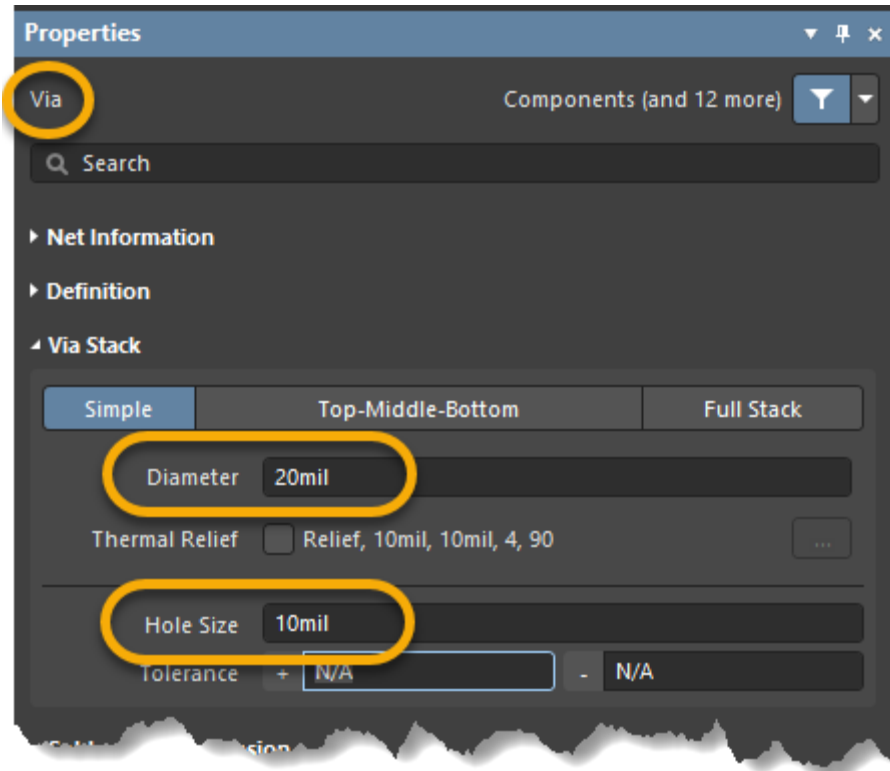

Figure 11. Properties panel with the new values for Via Diameter and Hole Size
36. In the *Properties* panel, **as shown in** Figure 11 **below**: